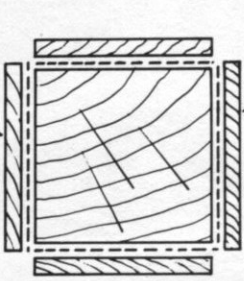

FIG. 2
Ten quarter stock is necessary for the $2\frac{1}{4}$ inch square legs. If unable to get these squares, you can glue up three pieces of dressed $\frac{7}{8}$ inch stock, making sure to joint the surfaces to be glued (see Fig. 2 for details). Rip some $\frac{1}{8}$ inch overlay pieces and glue these to the legs at (A) and (B) (after the legs have been finished to size and cleaned up) as indicated in Fig. 1 and 2. Note that the side overlays are glued first and then the front and backs (see Fig. 2) especially on the front legs. By gluing them in this manner, no glue joint will be visible at the front of the cabinet. Bore $\frac{5}{16}$ inch dowel holes to receive the stretchers. $\frac{1}{4}$ inch grooves are made in the front and back legs for the side panels. A $\frac{1}{4}$ by $\frac{3}{4}$ inch rabbet is cut out in the rear legs for the back panel, see Fig. 3.